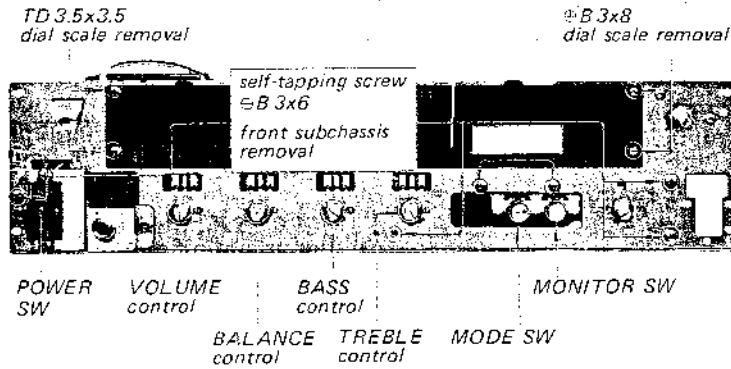

Fig. 2-16. Switch and control replacement
1. Remove the five self-tapping screws (#B5x6) securing the front subchassis to the chassis as shown in Fig. 2-16.